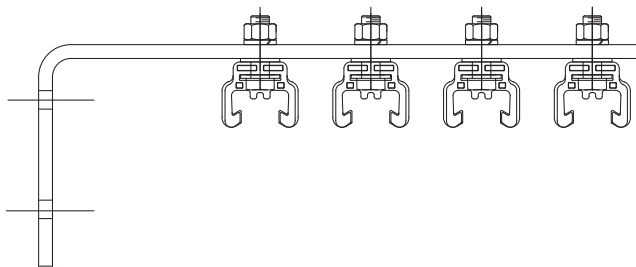
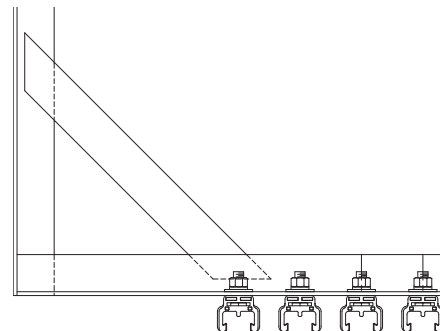

Figure 5-1
Figure 5-4
5.0.1 Support brackets may be web, flange, brace web, or lateral. A drawing of each bracket can be seen in **Figure 5-1** to **Figure 5-4**. The brackets are located at a maximum distance of 5 feet on a 500A system, 7.5 feet on a 700A system, and 10.0 feet on a 1000A-1500A system.